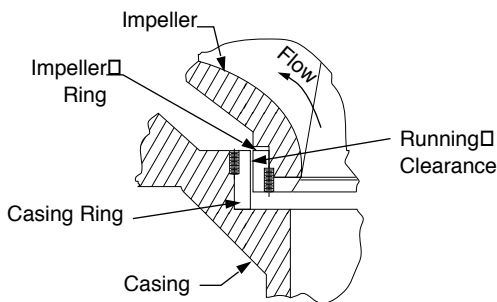
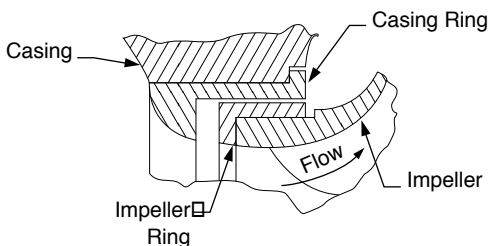

FIGURE 35. Flat-Type Wearing Ring
FIGURE 36. “L”-Type Wearing Ring
- The most common ring constructions are the flat type (Figure 35) and the “L” type (Figure 36).